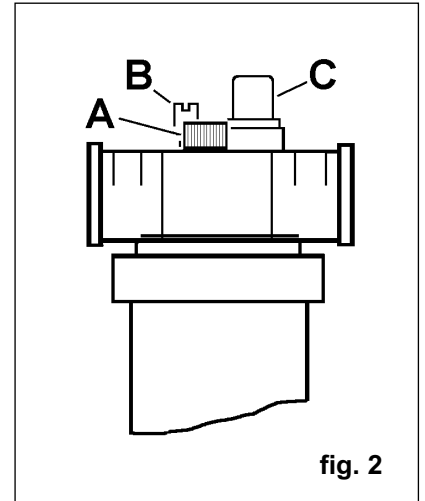

fig. 2
4.3. Lubricator - Remove filler plug (fig.2.A) and fill bowl with air tool oil. This can be done with air line pressurised.